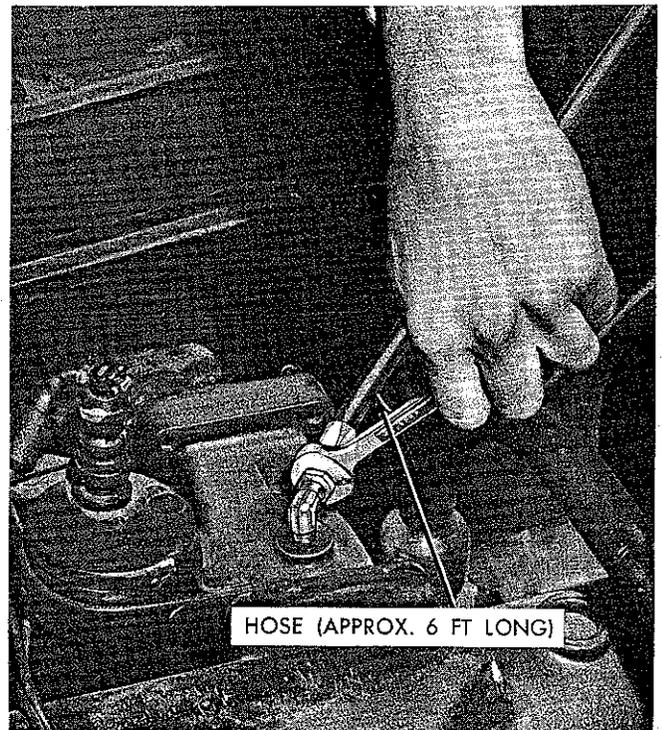

Figure 44
- (3) Connect a pressure hose, to the 90° elbow, of sufficient length to permit observance of pressure gage from vehicle cab (approximately 6 feet), Figure 44.
- (4) Connect a manifold pressure gage, having a range of 0 - 50 In. Hg (Mercury) gage pressure, to the pressure hose.